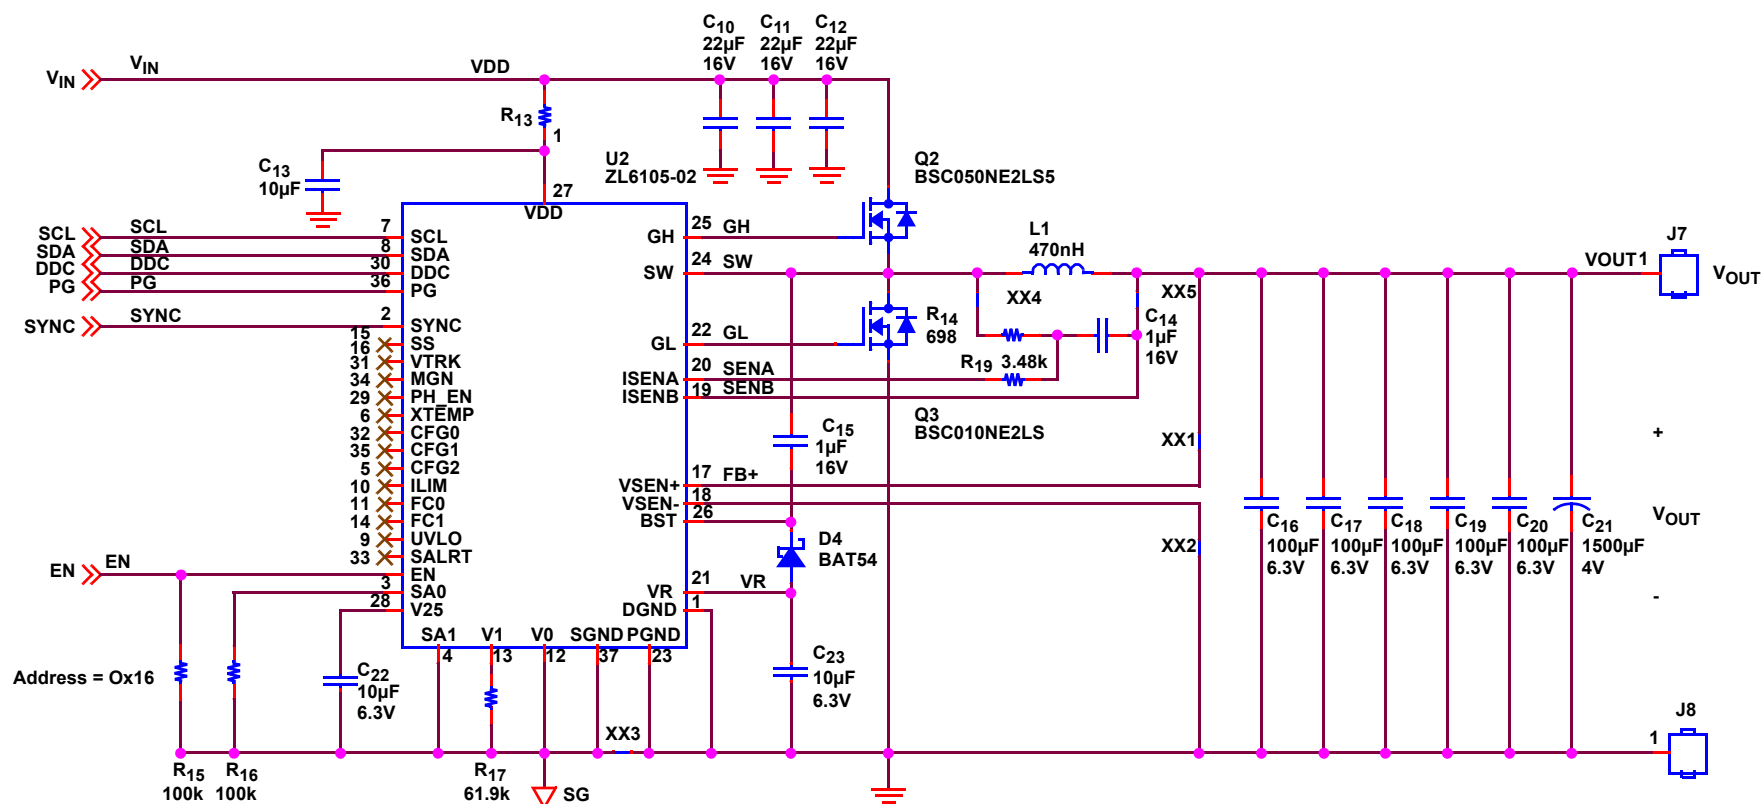

FIGURE 4. ZL6105-1CH-DEMO1Z DEMO BOARD
The ZL6105-1CH-DEMO1Z Demonstration Board schematics are shown in Figures 4 and 5. The hardware enable function is controlled by a toggle switch. The Power-Good (PG) LED indicates that V_{OUT} is regulating. The right angle headers at opposite ends of the board are for connecting a USB to SMBus control board or for daisy chaining of multiple Intersil evaluation boards.